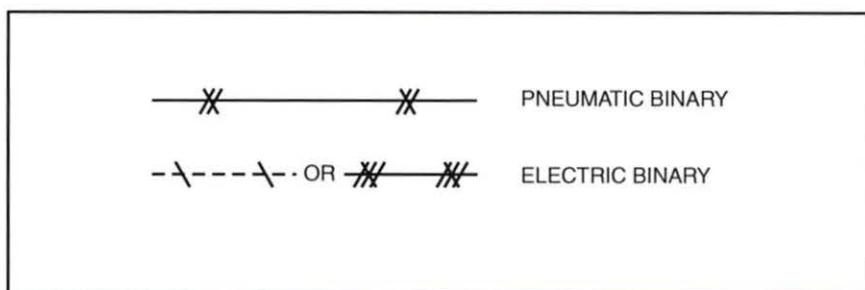

Figure 4. Binary Line Symbols
To aid in the identification of the nature of line symbols, backslashes are sometimes added to denote that the signal being transmitted is binary, as shown in figure 4. If a device is considered binary, it has only two operating conditions: On (1) or Off (0).